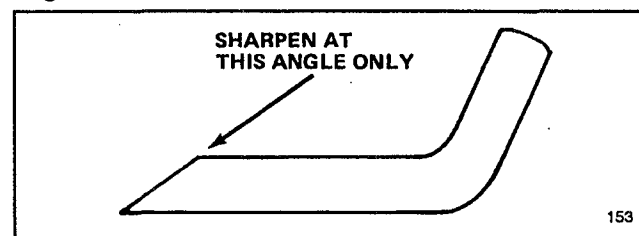

Figure 27
6. SHARPENING BLADE—Using a file, sharpen top side of blade and maintain original cutting angle (Fig. 27). The blade will remain balanced if same amount of material is removed from both cutting edges.